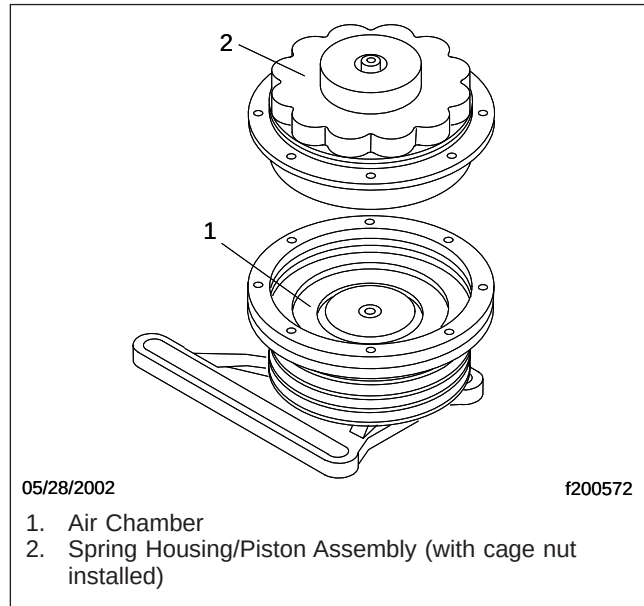

Fig. 4, Spring Housing/Piston Assembly Removal and Installation
12. *Keeping the cage nut installed and tightened*, remove the spring housing/piston assembly. See Fig. 4.
13. Carefully set the new spring housing/piston assembly into position. See Fig. 4. Note that the new assembly has a cage nut installed on it.